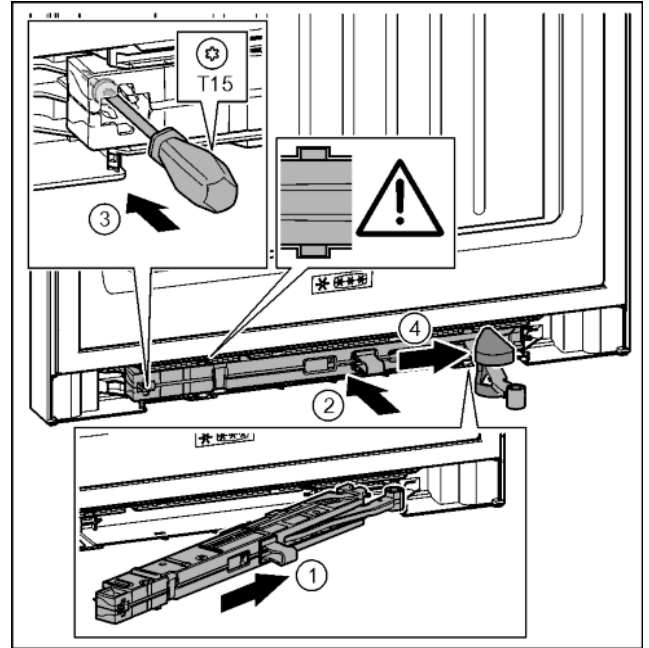

Fig. 38
- ▶ Slide the soft-stop mechanism on the bearing bracket at an angle into the gap as far as the limit stop. Fig. 38 (1)
- ▶ Slide the soft-stop mechanism fully into the gap. Fig. 38 (2)
- ▶ Tighten the screw with the T15 screwdriver. Fig. 38 (3)
- ▶ Slide the cover over the hinge. Fig. 38 (4)